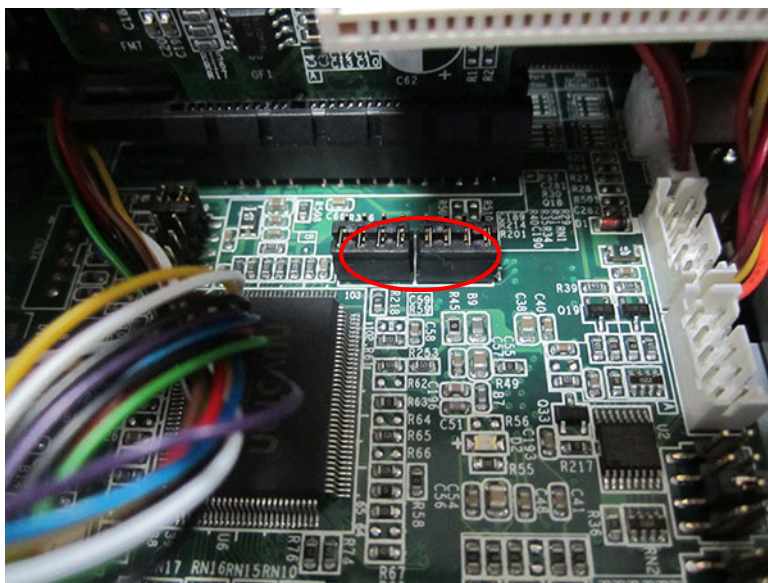

Figure 3.6
2. Configure the external port as COM5. (See Fig 3.6)
- a. Configure JP1 and JP2 as shown in Fig 3.6. (This configuration will change touchscreen's control source as USB, and the system needs to reinstall touchscreen driver.)